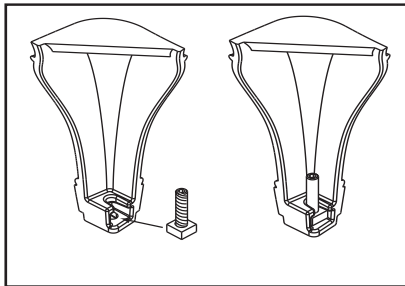
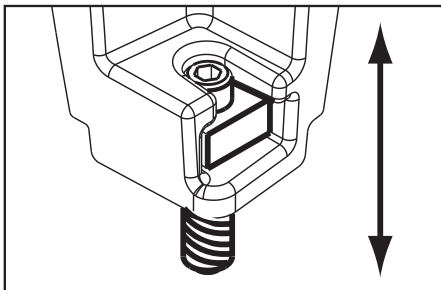

Figure 24.2
Figure 24.3 - Bolt fully extended
2. Slide assembled nuts and bolts into slots on legs with the nuts on the bottom (**Figure 24.2**). Use a 5/32 in. (3.96mm) Allen wrench to adjust legs up and down to desired level (**Figure 24.3**).